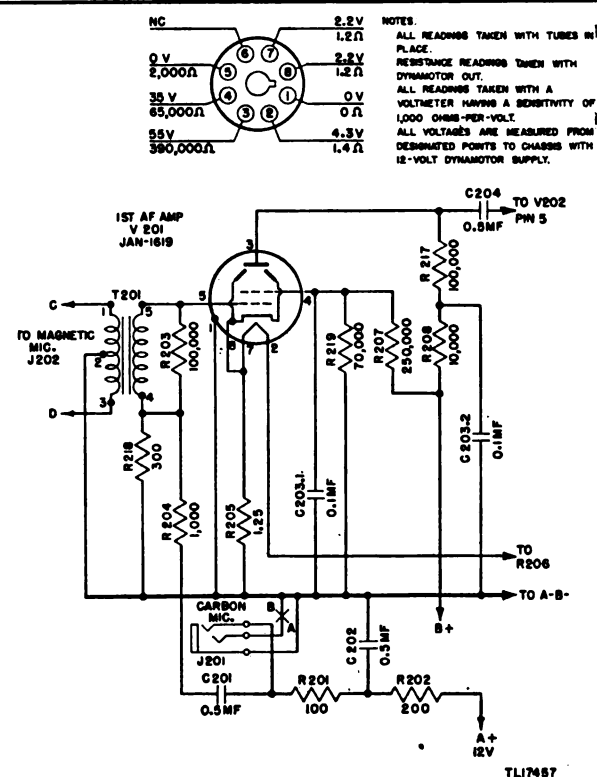

Figure 18. Interphone Amplifier BC-605-(*), first a-f stage schematic diagram.
21. Parts List for First A-F Amplifier, V201 (fig. 18)